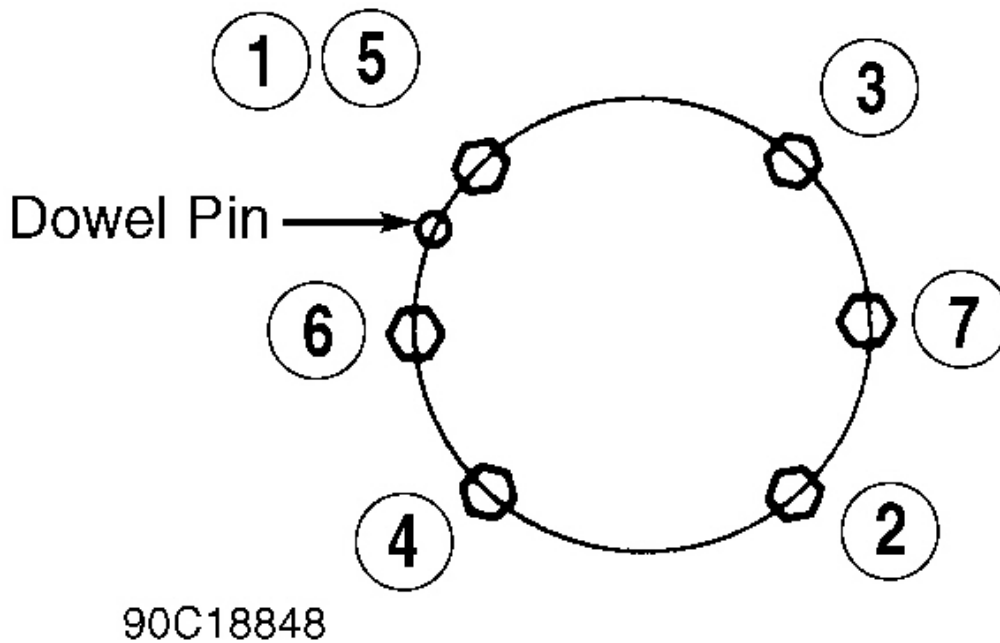

Fig. 3: B-W 1356 Extension Housing Tightening Sequence
1. Install new gasket. To complete installation, reverse removal procedure. Tighten extension housing bolts in sequence to specifications. Refer to **TORQUE SPECIFICATIONS (TRANSFER CASE)**. Also, see **Fig. 3**. Fill transfer case with 2.0 qts. (1.9L) of Mercon ATF (XT-2-QDX or EAZ-19582-B).